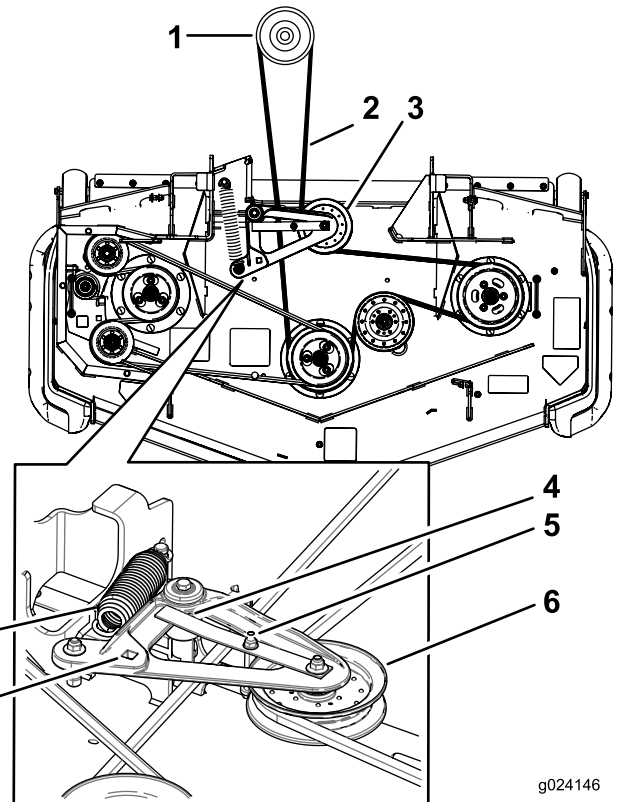

Figure 102
6. Use a ratchet in the square hole in the idler arm to remove tension on the idler spring (Figure 102).
8. Install the new belt around the mower pulleys and the clutch pulley under the engine (Figure 102).
9. Rotate and ensure the belt-guide tab hits against the pivot hub (Figure 102).
10. Using the ratchet in the square hole, install the belt around the spring-loaded idler pulley (Figure 102). Seat the spring ends in the anchor grooves.